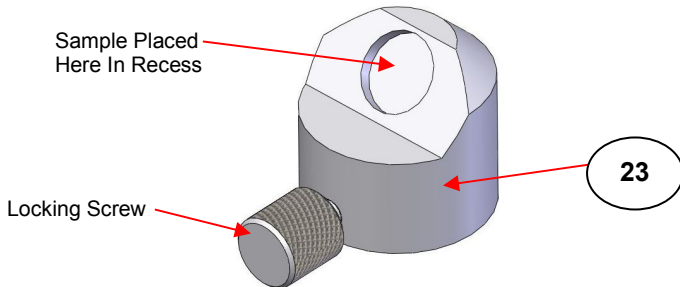

Fig 17. Tilted (Total Reflectance) Sample Cup
There is one Tilted Cup (23) provided with the Selector™ accessory. (See Fig 17.)